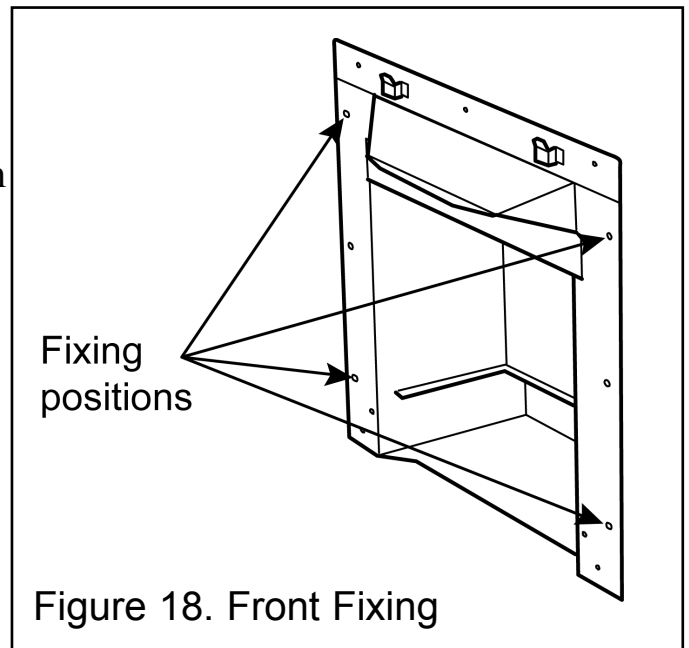

Figure 18. Front Fixing
3. Mark the fireplace front surround through the four fixing holes in the side flanges of the convection box. See figure 18.